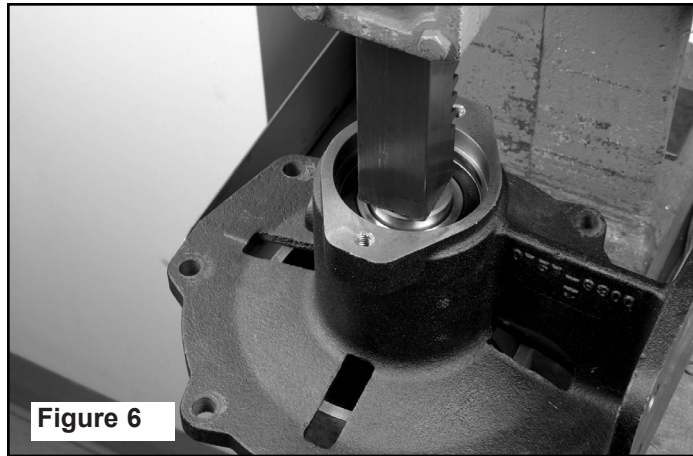

Figure 6
3. Set the mounting flange shaft side down in a press to remove the bearing and shaft assembly (See Figure 6).